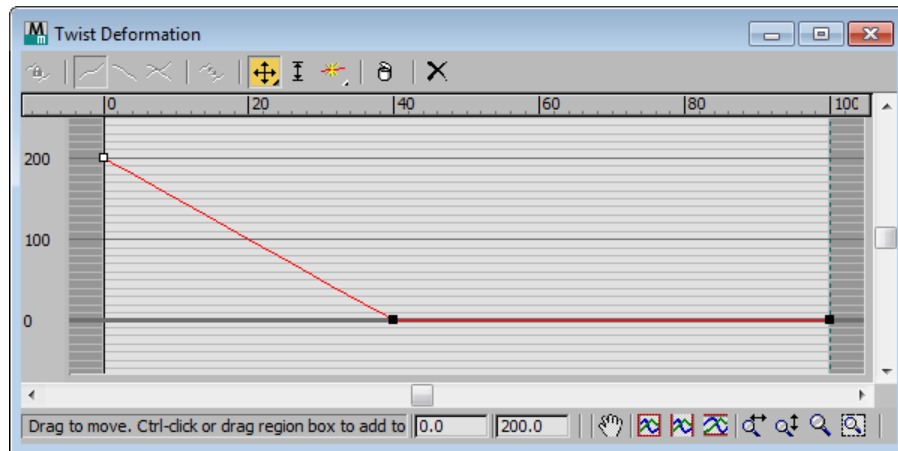

Figure 9-8 Adjusting the vertex
3. Pick the **Move Control Point** button and move the left vertex up to 200° (200 is displayed in the right-hand text box). If 200 is not visible in the graph, use the scroll bar to view the point, **Figure 9-8**.